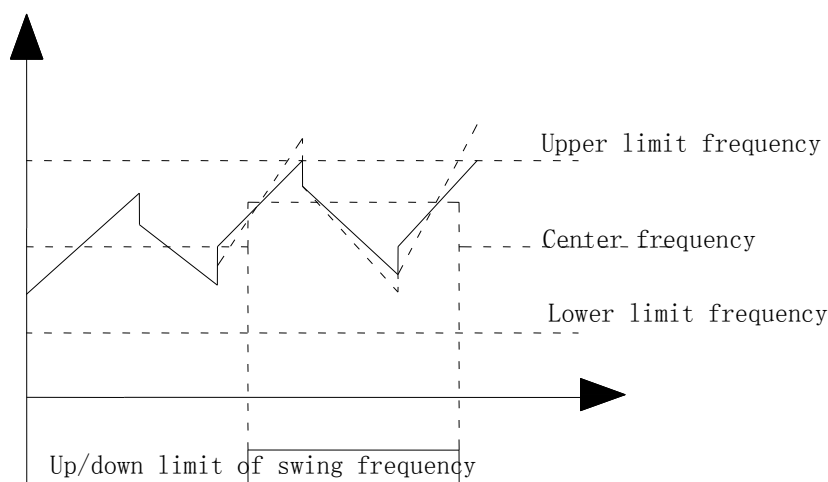

Fig.4-25 Upper and lower limit of swing frequency
- 19: Upper and lower limit of swing frequency**. An indicate signal will be output if the swing frequency range calculated by center frequency exceeds the upper/lower limit frequency. See Fig 4-25.